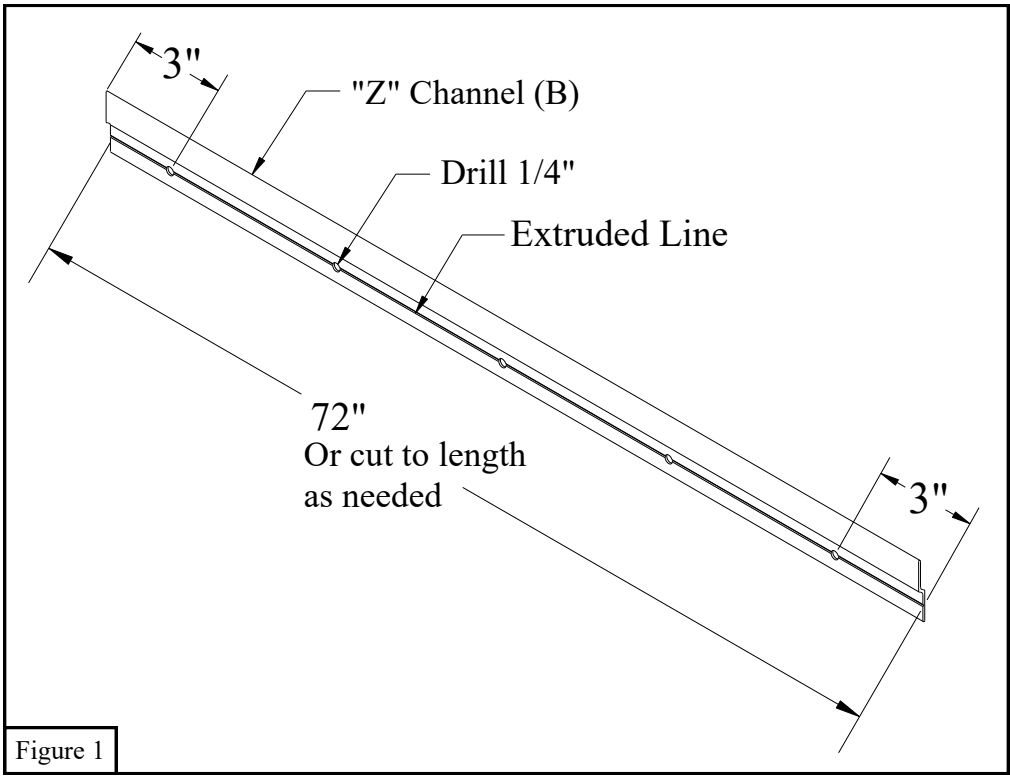
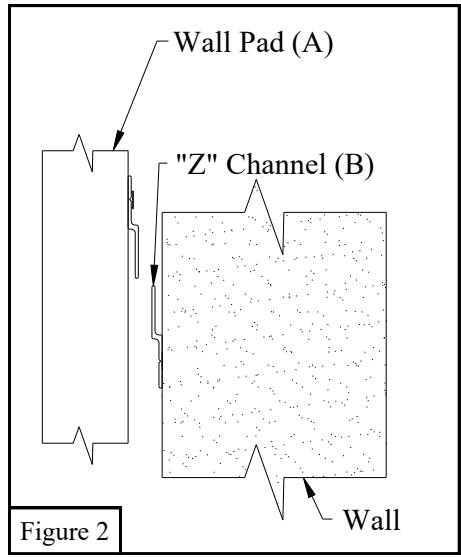

Figure 1
Figure 2
2. Drill a 1/4" holes along the extruded line in the 6' "Z" Channels (B) 3" from each end and approximately 12"-18" apart. All dimensions are approximate. See Figure 1.
3. Once you have determined the *Wall Pad (A)* position strike a level line on the wall 3 3/8" above what will be the bottom of the *Wall Pad (A)* when installed. Padding should be installed no more that 4" from the floor. Using the extruded line in the " Z" Channel (B) as a guide, position the drilled holes on "Z" Channels (B) over the level line and mark the wall through each 1/4" hole. Drill and anchor " Z" Channel (B) to wall using appropriate anchors supplied by installer. Spacing and type of fastener is dependent on the type of wall construction. See Figures 1, 2 and 3.
4. Strike a level line 6 7/8" below what will be the top of *Wall Pad (A)* and repeat the " Z" Channel (B) installation process from instruction #2 for mounting the top "Z" Channels (B).
5. Make sure the gap between the wall and "Z" Channel (B) is up as shown. See Figure 2.